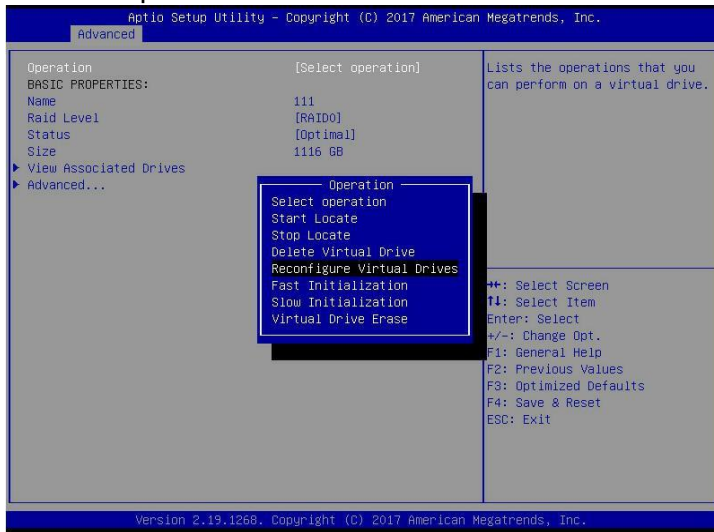

Figure 6-93
c) Enter the interface shown in Figure 6-93, select Operation, press Enter, and then select Reconfigure Virtual Drive in the pop-up dialog box, and press Enter.
✧ Figure 6-93 Operation interface